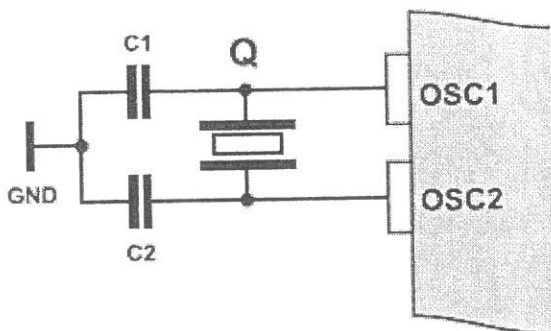

Figure 5(a)
- (a) Calculate the time delay subroutine taken for the Table 5(a) program which is running with the highest HS mode using 22 pF capacitors by the PIC16F877A microcontroller in Figure 5(a).